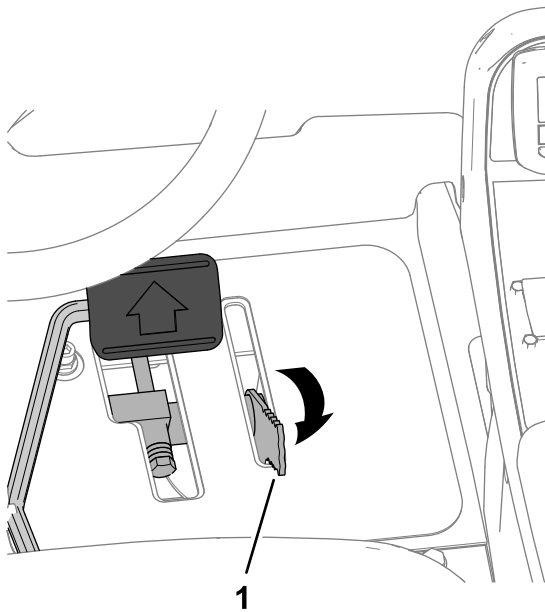

Figure 58
3. Move the lever for the mow-speed limiter rearward to the TRANSPORT position (Figure 58).